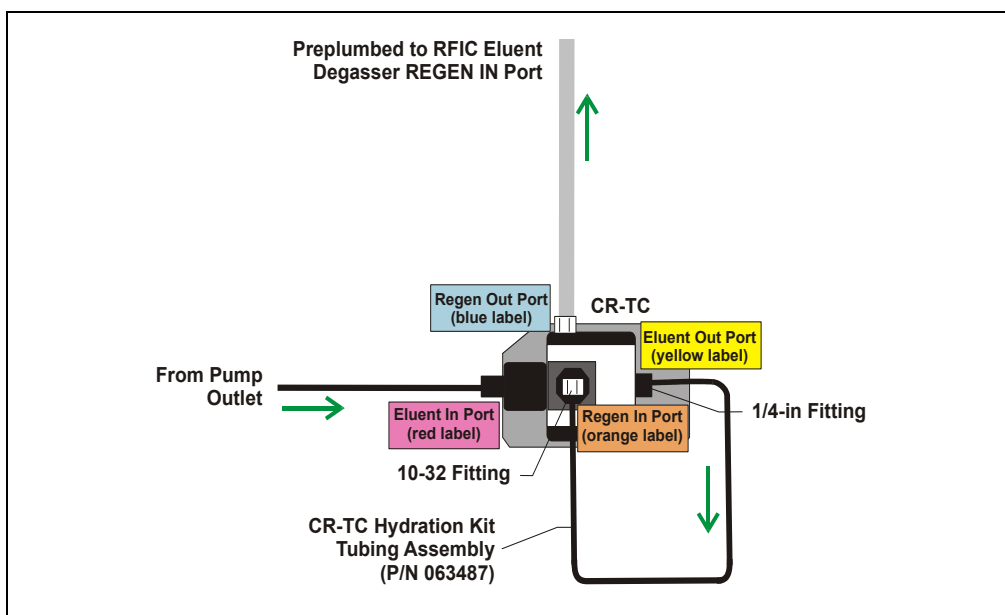

Figure 9-18. CR-TC Plumbing for Hydration
- Refer to Figure 9-18 to plumb the four ports on the CR-TC for the hydration procedure.